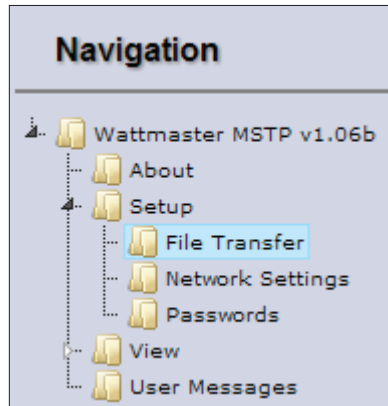

Figure 13: Navigation Window - File Transfer
3.) In the *Navigation Window* on the left of the FS-GUI Screen, click **<Setup>** and then click **<File Transfer>**. See Figure 13.